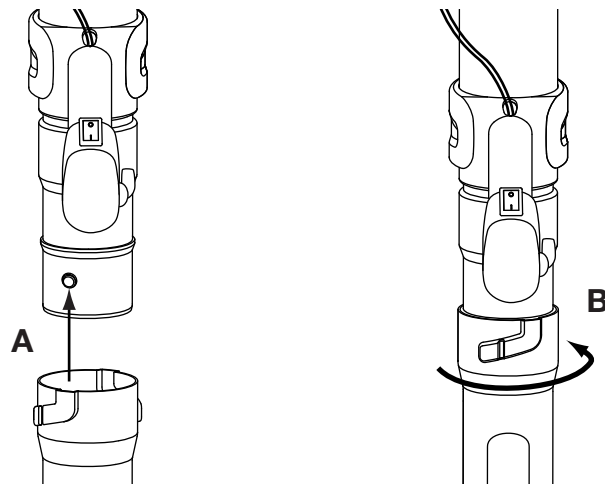

Fig. 3
1. Align the bump slot on the end of the lower blower tube with the bump on the bottom end of the upper blower tube (Fig. 3, A).
2. Insert the bump on the upper blower tube into the bump slot on the lower blower tube (Fig. 3, A).
3. Twist the lower blower tube clockwise around the upper blower tube until the upper blower tube bump locks into place (Fig. 3, B).